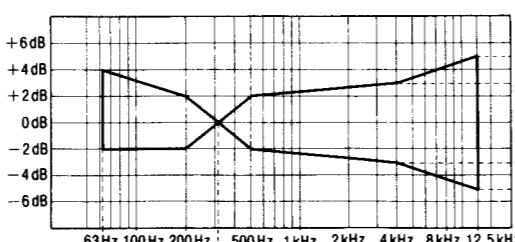
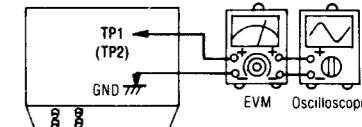

Fig. 5
Fig. 6
| | Fig. 5 | | Fig. 6 |
- The serial number plate of this product is attached to the back chassis (shown in fig. 6).
3. Check that the frequency is within the range shown in Fig. 5 for both L-CH and R-CH.
1. Test equipment connection is shown in Fig. 6.